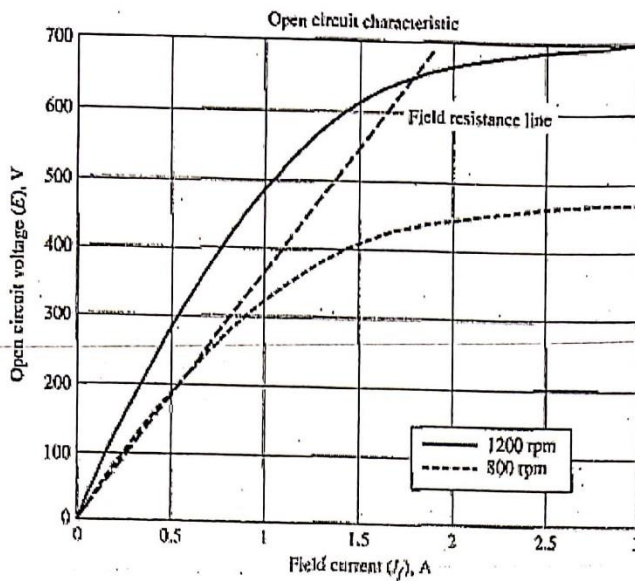

Fig. 2
- Q(2) List out any eight differences between Lap and Wave Winding. Prepare the winding table for the Lap winding for the following parameters: Number of slots  $s = 16$ , Number of poles  $2p = 4$ , Number of parallel paths  $2a = 4$ , Number of coil sides in upper layer of a slot  $u = 1$ , Number of turns per coil  $N_c = 1$ .
- Q(3) A 60-kW, 960-rpm, 230-V, 260.2-A DC generator operates as a separately-excited generator at nominal speed and nominal voltage feeding an external circuit with such resistance that the current drawn by the load is equal to the nominal armature current. Resistances of winding at steady temperature and nominal operation are: armature winding resistance  $R_a = 0.035 \Omega$  and resistance of inter pole winding  $R_{int} = 0.015 \Omega$ . The brush voltage drop is  $\Delta V_{BR} = 2 V$ . Assuming constant field excitation current, find the armature terminal voltage, current and delivered power to the external load for the speed of prime mover decreases 15%.
- Q(4) Derive the EMF equation for a generator from basic operating principles. The two plots of Fig.2 show the OCC for a 600-V, 1200 rpm dc machine where the data were recorded at 1200 and 800 rpm. Explain how if only one of the curves were available, the second could be generated.